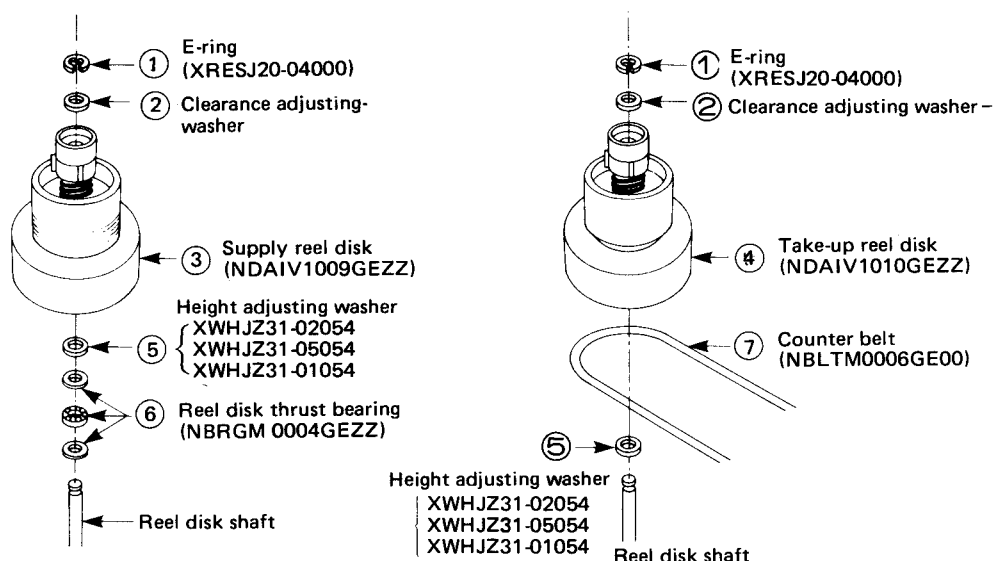

Figure 53.
## REPLACEMENT, ASSEMBLY AND HEIGHT ADJUSTMENT OF THE REEL DISKS (See Fig. 53)
1. Place the master plane and insure that the height of the reel disk is lower than the part "A" but higher than the part "B" of Fig. 53, by using the reel disk height adjusting jig. If the height is not correct use the height adjusting washer: this washer is available in three sized (3.1W 5.4-0.25), (3.1W 5.4-0.5) and (3.1W 5.4-0.13). The looseness in backlash on the shaft should not exceed 0.1 to 0.5mm.